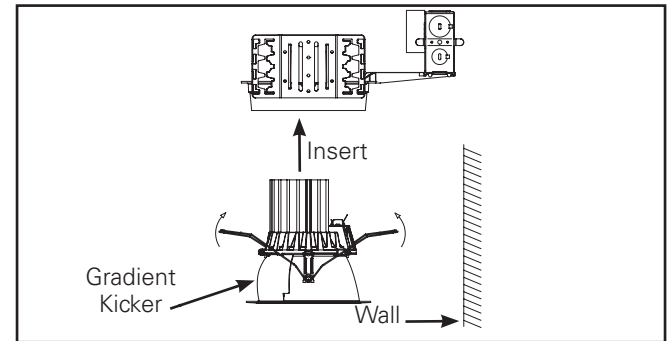

Figure 11
2. For wall wash option install trim assembly with gradient kicker opposite wall to be illuminated. (Figure 11.)